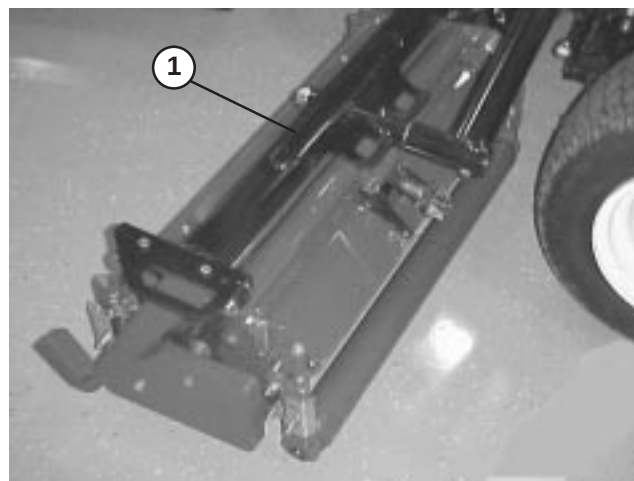
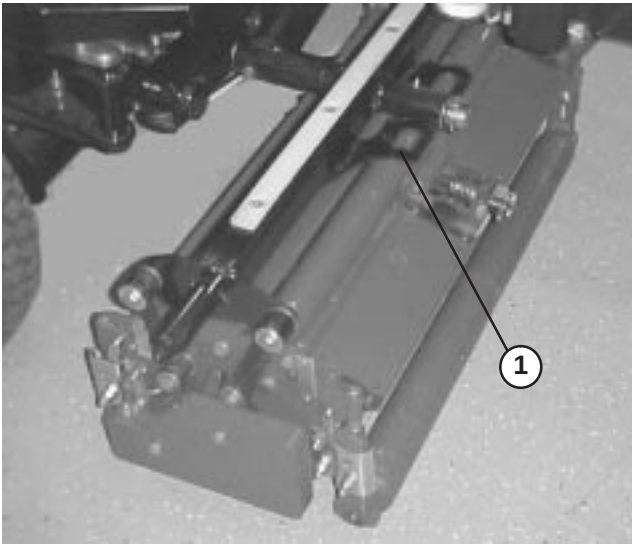
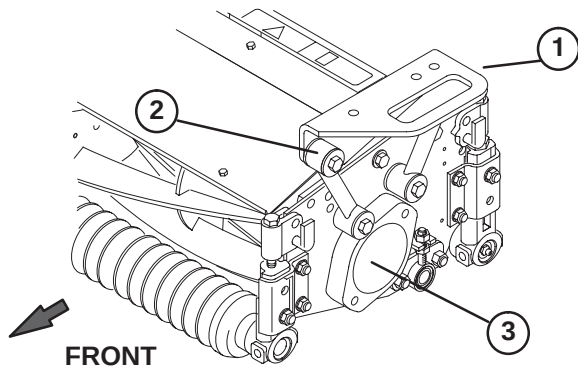

Figure 16
Figure 17
Figure 18
Note: With lift arms fully raised, hoses should be routed as shown in figure 18 and clear lift arm by .04-.12".
- Position a front carrier frame (Fig. 16) onto each front cutting unit. Align mounting holes with mounting links as shown in figure 18.
3. Position rear carrier frame (Fig. 17) onto rear cutting unit, aligning mounting holes with mounting links as shown in figure 18.
4. Secure each mounting link to carrier frame with a 3/8-16 x 2-1/4" lg capscrew, (2) flatwashers and a locknut, as shown in figure 18. Position a washer on each side of link when mounting. Torque to 31 ft-lb.
3. Remove shipping plug from bearing housings on remaining cutting units (Fig. 18).